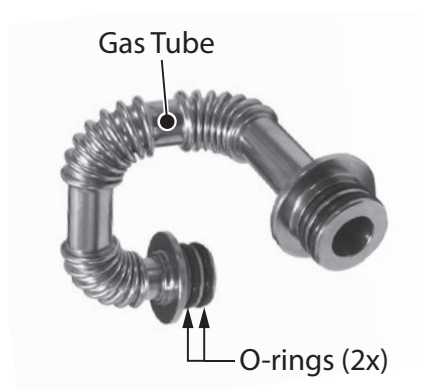

Figure 103 - Install venturi O-rings to gas tube
- 19** Locate the two (2) O-rings provided in the kit. Remove the two (2) old O-rings from gas tube (venturi mating side) and install the two (2) new O-rings as shown in Figure 103.